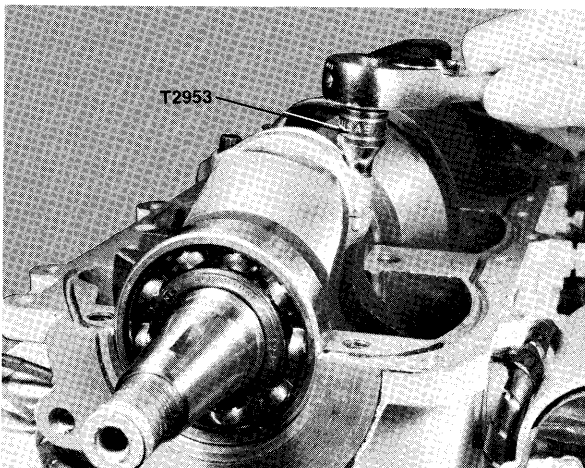

Figure 6—Removing Rod Cap Screws
- H. Remove connecting rod cap screws using 12 point socket (Special Tool T2953) as shown in figure 6.